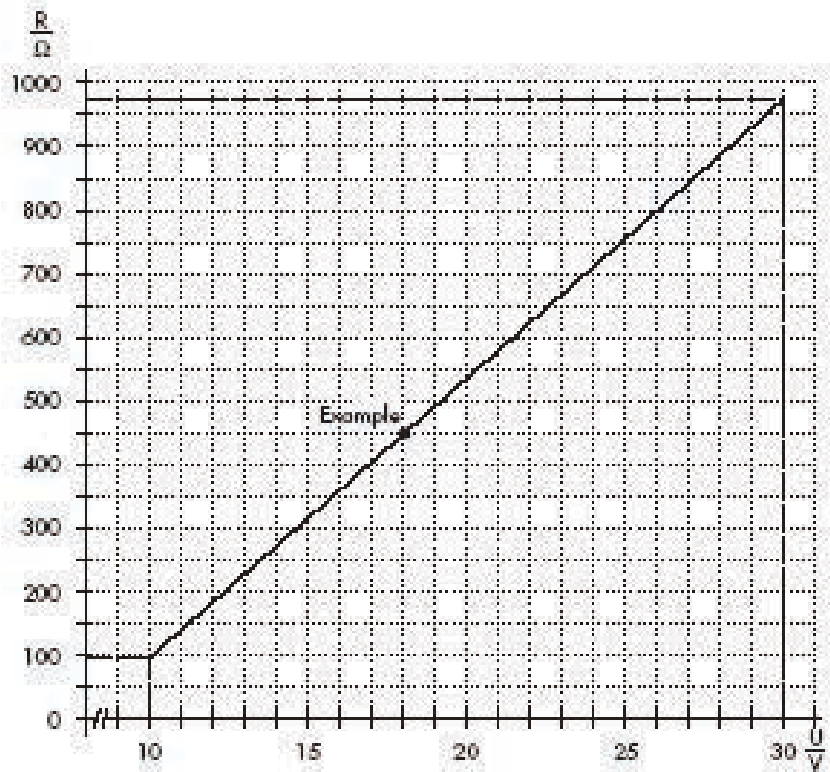

FIGURE C-1. Diagram to determine the maximum load resistance as a function of the power supply.
- Read off the maximum load resistance for your power supply from FIGURE C-1.